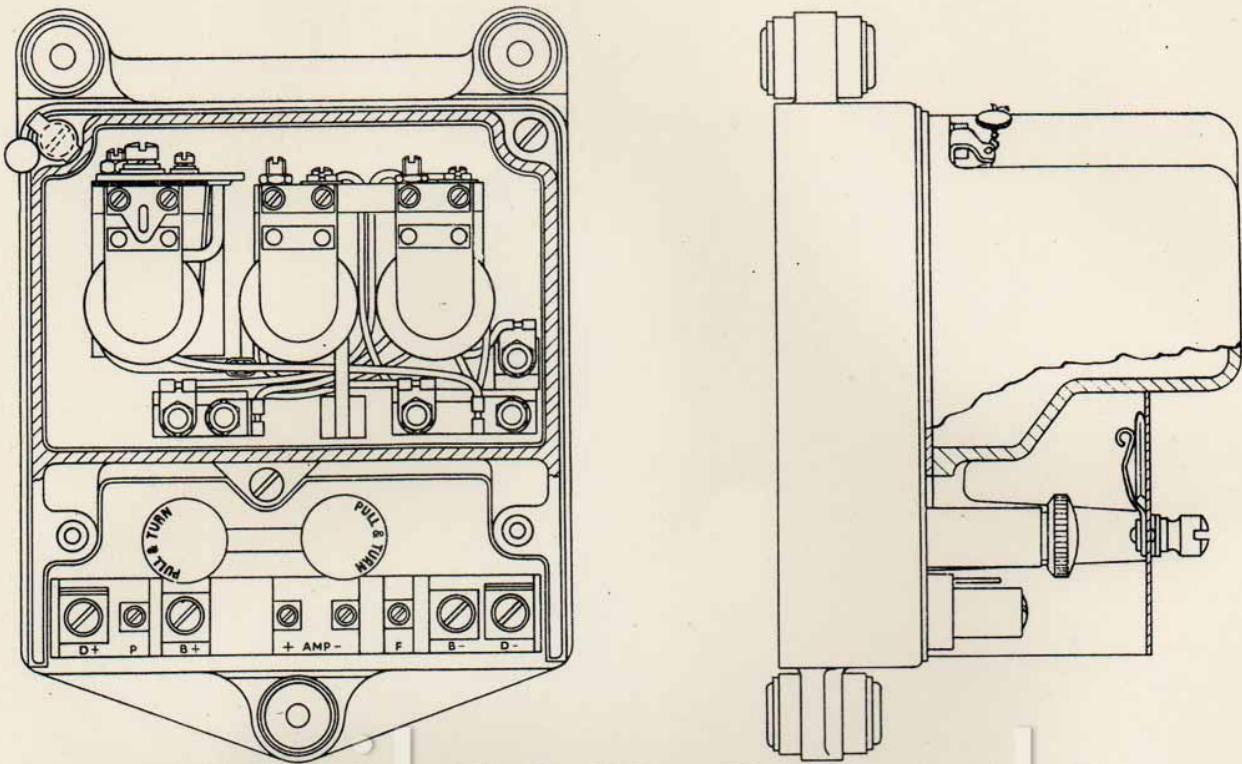

FIG. 11. SECTIONS THROUGH CONTROL BOARD.
3. Connect positive lead of a moving coil voltmeter to D+ terminal and the second voltmeter lead to D- terminal, see Fig.11.
3. Connect moving coil voltmeter across D + and D - on control board, see Fig.11.